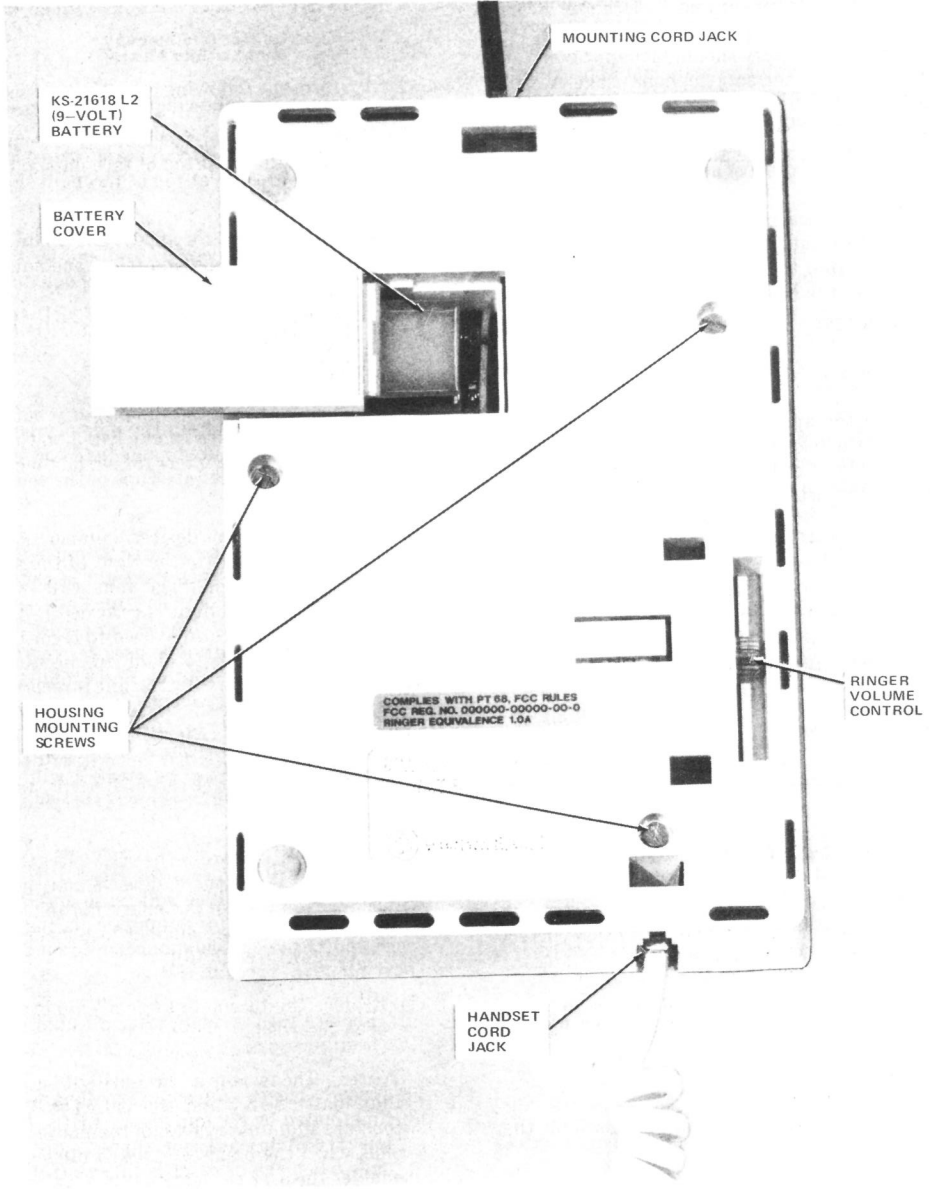

Fig. 3—5001T01A Telephone Set, Bottom View
the necessary connections (Fig. 3). Place the battery in the battery compartment and replace the cover.
**3.03** Plug one end of the mounting cord (D4BU) into the modular jack in the rear of the set and the other end into the 625-type modular connecting block. Connect the handset cord to the set (Fig. 3).
- (1) Dial the appropriate code for ringback to test the telephone set tone ringer. Move the ringer volume control lever (Fig. 3) on the bottom of the set to check variation of volume. There is no provision for ringer cutoff using the volume control.
- (2) Call the CO dial test line, when connected press the dial buttons in sequence 1 through 9, \*, 0, and # verifying that correct signals is returned from the CO.